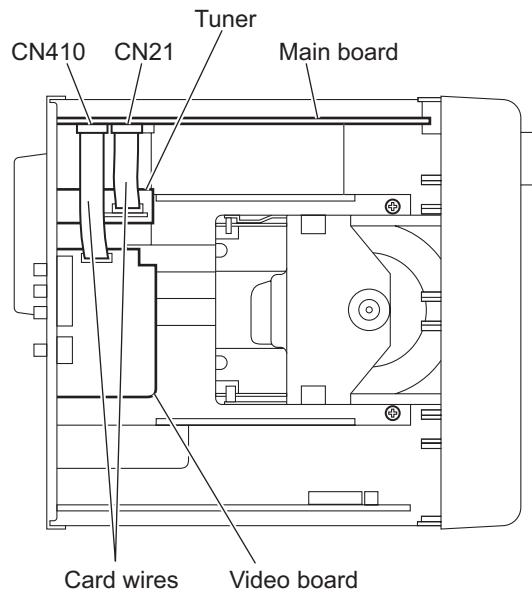

Fig.8
(See Figs.8 and 9.)
(1) From the top side of the main body, disconnect the card wire from the connector CN21 on the main board. (See Fig.8.)
(1) From the top side of the main body, disconnect the card wire from the connector CN410 on the main board. (See Fig.8.)
Remove the tuner and video board as required. (See Figs.8 and 9.)